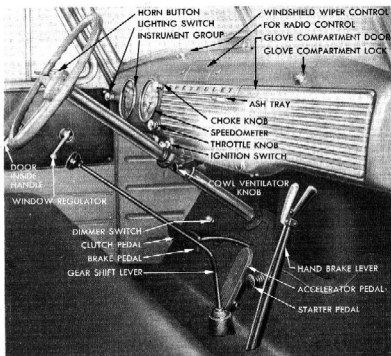
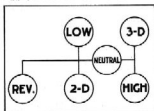
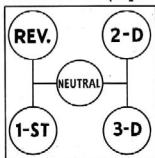

Fig. 2—Controls and Instruments—1-1 1/2 and 2 Ton
Fig. 11—Four Speed Transmission Shifting Diagram
Fig. 12—Three-Speed Transmission Shifting Diagram
Parking Brake. On all 1 Ton (except Forward Control), $1\frac{1}{2}$ and 2 Ton, except C.O.E., the parking brake is hand operated with lever extending up through floor to the right of the gear shift lever with the grip just below the instrument panel (fig. 2). Hand brake lever on C.O.E. is to the left of the gearshift lever. Pulling this lever back applies the rear wheel brakes on 1 ton
Gearshift Lever (4-speed Synchro-mesh Transmission) extends to the left and back from transmission cover dome at center of floor (fig. 2). This lever is used to shift the transmission gears to the desired position. Figure 11 shows the lever knob positions when the transmission is in neutral, reverse and the four forward speeds. To shift the transmission into any of the forward speeds, disengage the clutch, move the lever across neutral to right or left as desired, and then forward or back into gear.
Figure 12 shows the gearshift pattern in neutral, reverse and three forward speeds. To shift into any gear position, disengage the clutch, move the shift lever up
2. Move gearshift lever into low gear position. (If 4-speed transmission see Figure 11, or if 3-speed transmission see Figure 12.)
1. Depress clutch pedal and release accelerator at the same time. Move the shift lever into neutral and then to the next higher gear. See shifting diagrams, Figures 11 and 12.
2. Move shift lever across neutral to left, against the spring tension as far as it will go. Move lever back into reverse (fig. 11).
2. Raise shift lever up across neutral and forward into reverse position. (fig. 12).